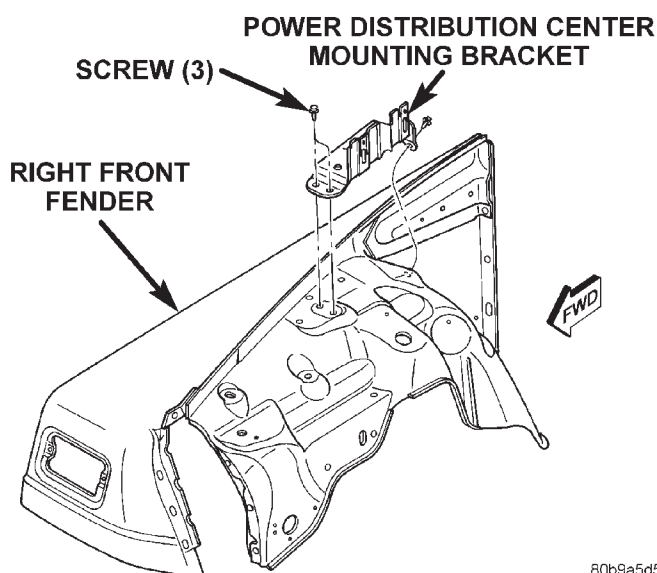

Fig. 5 PDC Mounting Bracket Remove/Install
(9) Remove the PDC and the dash wire harness from the engine compartment as a unit.
(10) Remove the three screws that secure the PDC mounting bracket to the right front inner fender (Fig. 5).
(11) Remove the PDC mounting bracket from the right front inner fender.